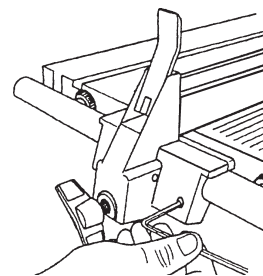

Figure 74
- Use a 5/32" Allen Wrench to back out the Adjusting Set Screw from the Fence Base so it doesn't contact the infeed Table Tube, as shown in Figure 74.